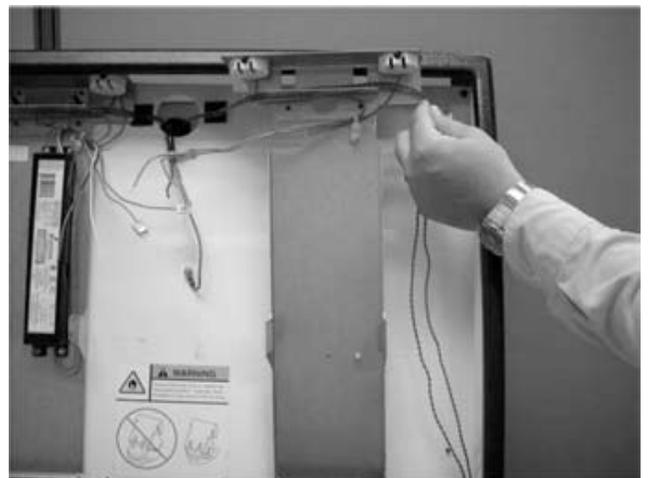

Figure 61.
- R. Place bottom of bracket into bottom of merchandiser, as shown in Figure 61.